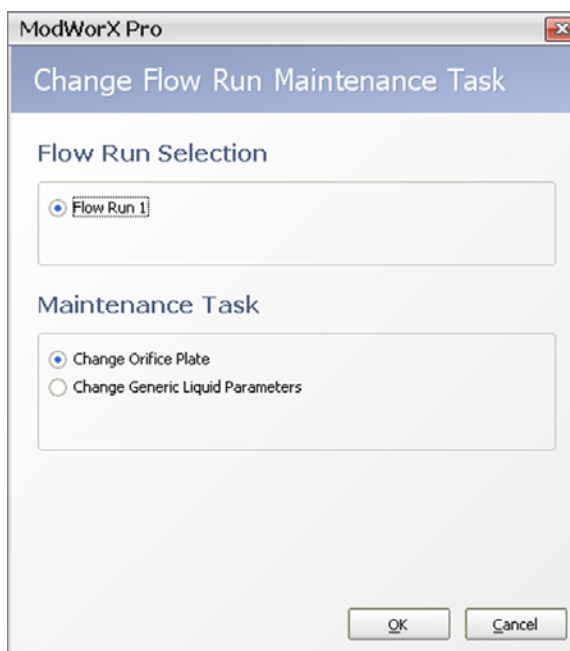

Figure 9.15
1. If Change Generic Liquid Parameters is not displayed in the Maintenance Task field at the top of the Maintain Flow Run screen, click on **Change Task**. The Change Flow Run Maintenance Task dialog will appear (Figure 9.15, page 141).